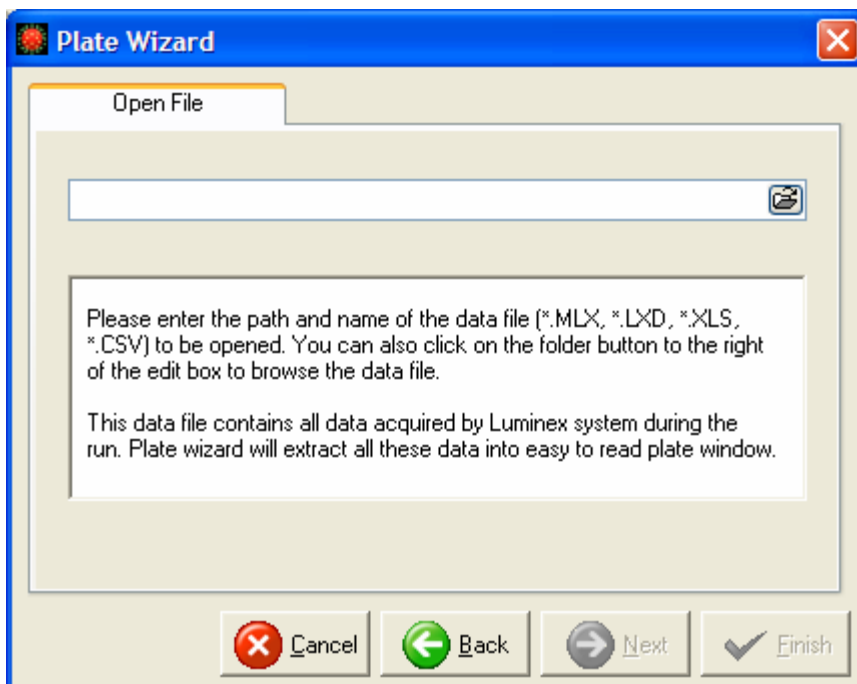

Figure 3.3 Plate Wizard
- ⇒ The Import File tab appears (Figure 3.3).